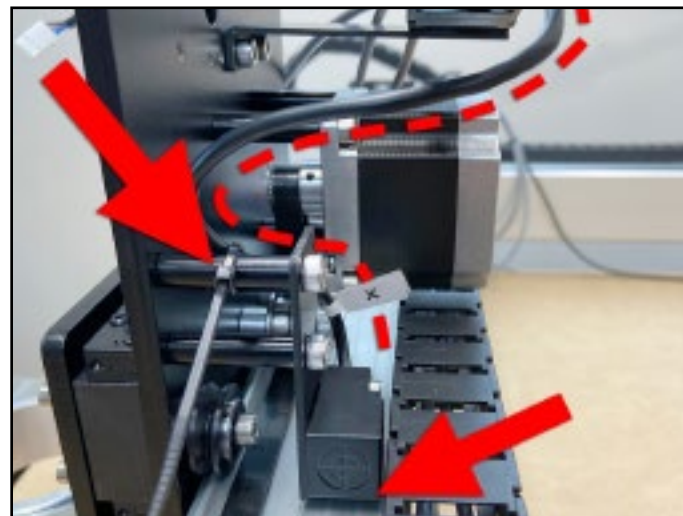

Figure 7-6
4. Route the proximity switch cable and mounting plate behind, then through the loop of the X-Axis drag chain. See **Figure 7-6**.
5. Use the 4mm hex key and two (2) M5x8mm socket head cap screws to install the mounting plate to the two 30mm standoffs at the rear of the Z-Plus. See **Figure 7-6**.
6. Use one (1) cable tie to secure the proximity switch cable to the upper standoff. See **Figure 7-6**.